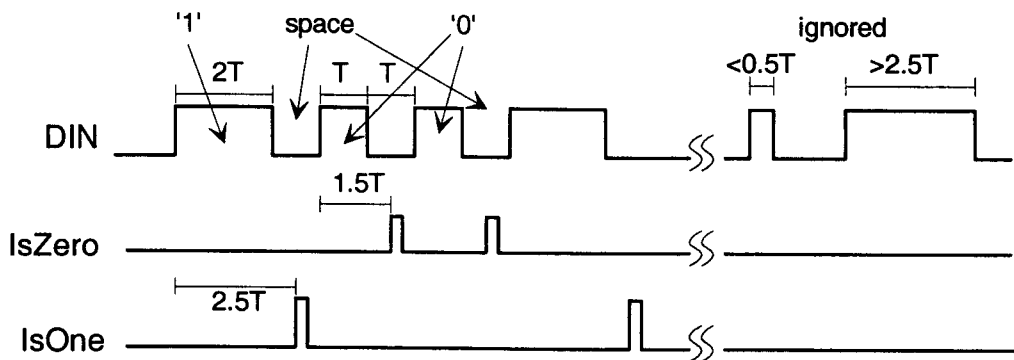

Figure 5.1
- 3) Each '0' or '1' bit is separated by a 'space' consisting of a low level signal lasting for a duration  $\geq T$  as shown in Fig 5.1;
A circuit is required to decode such a data stream and produce two signals *IsZero* and *IsOne* corresponding to a '0' bit and a '1' bit respectively. If a zero is decoded, *IsZero* should go high for one system clock cycle  $1.5T$  after the start of the '0' bit. If a one is decoded, *IsOne* should go high for one system clock cycle  $2.5T$  after the start of the '1' bit. This is demonstrated in Figure 5.1.